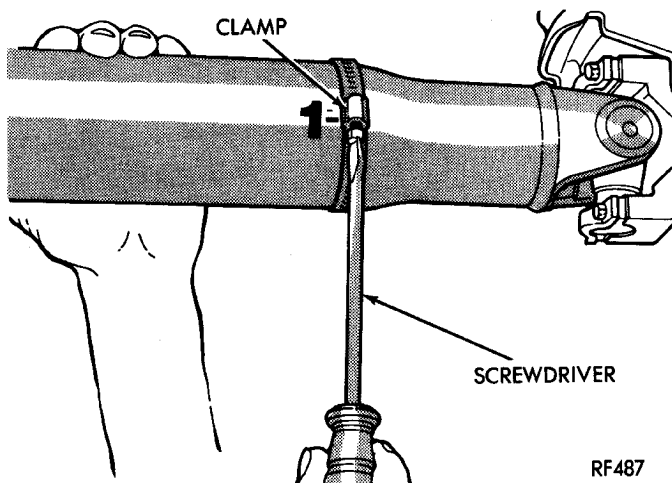

Fig. 7 Clamp Screw At Position 1
- (1) Raise the vehicle.
- (2) Clean all the foreign material from the propeller shaft and the universal joints.
- (3) Inspect the propeller shaft for missing balance weights, broken welds, and bent areas. **If the propeller shaft is bent, it must be replaced.**
- (4) Inspect the universal joints to ensure that they are not worn, are properly installed, and are correctly aligned with the shaft.
- (5) Check the universal joint clamp screws torque.
- (6) Remove the wheels and tires. Install the wheel lug nuts to retain the brake drums or rotors.
- (7) Mark and number the shaft six inches from the yoke end at four positions 90° apart.
- (8) Run and accelerate the vehicle until vibration occurs. Note the intensity and speed the vibration occurred. Stop the engine.
- (9) Install a screw clamp at position 1 (Fig. 7).